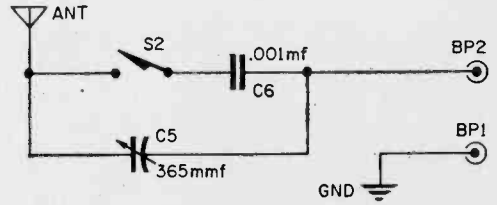

Fig. 2. Optional hookup improves antenna.
**Tuning the Antenna Coil.** As shown in the schematic diagram, Fig. 1, a split secondary coil, with antenna coil between, is tuned by a two-section variable capacitor. If a single-section variable capacitor is added in the antenna circuit, Fig. 2, the antenna coil can be tuned to obtain both improved sensitivity and selectivity. Using a long outdoor antenna and a good water pipe ground takes further advantage of the added circuit. For frequencies below 850 kc, close the s.p.s.t switch to connect the .001 mfd. fixed capacitor across the variable capacitor. This combination is necessary to cover the entire broadcast band.